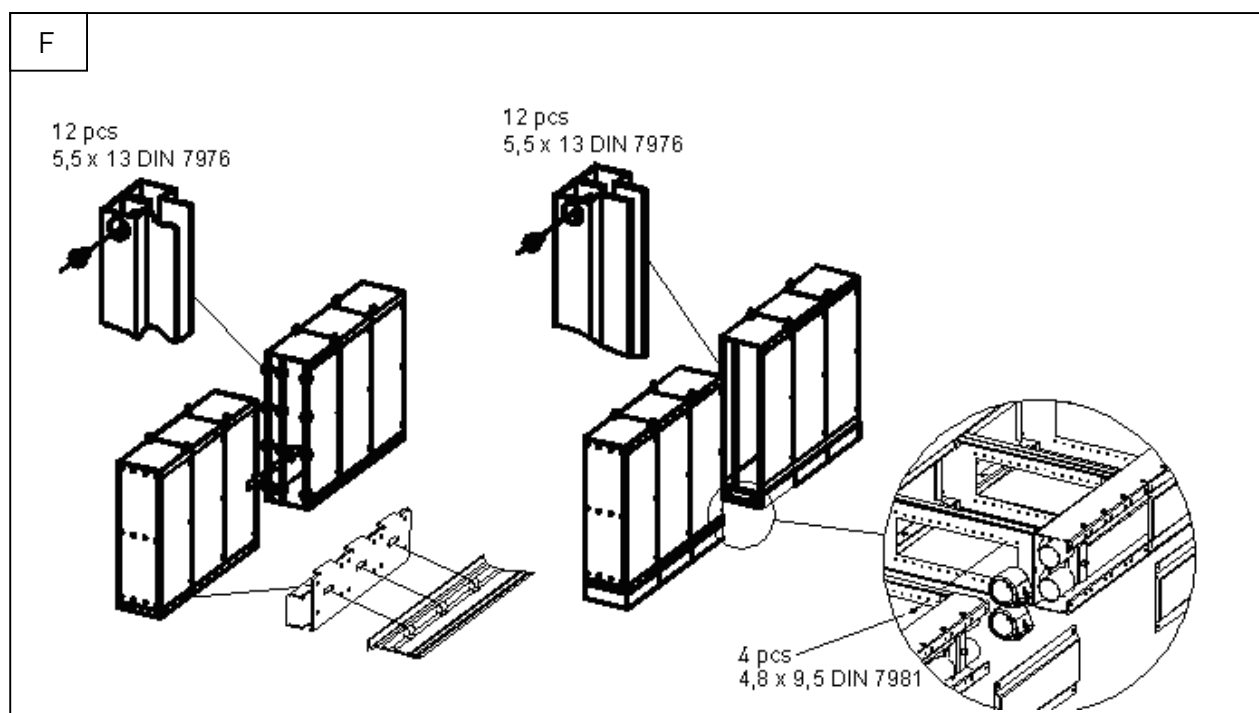

Figure 10
- F) Interconnect the switchgear parts, see Figure 10
All necessary connection materials and instructions (instruction ref. no. Xxxxx) are included with the switchgear parts delivery. Frames are interlocked first at the rear, then in the middle and finally at the front. The plinths of the switchgear parts are fastened to each other as illustrated in Figure 10.